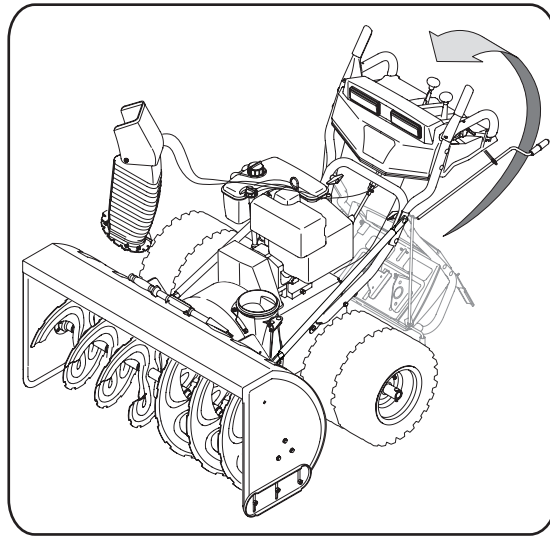

Figure 1
- Raise the upper handle assembly until it locks over the lower handle. See Figure 1.